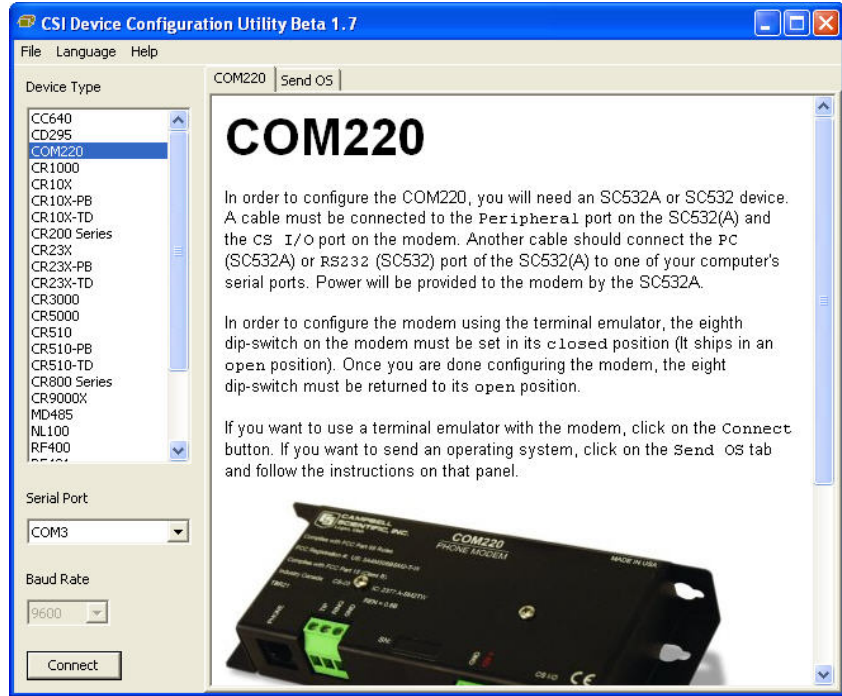
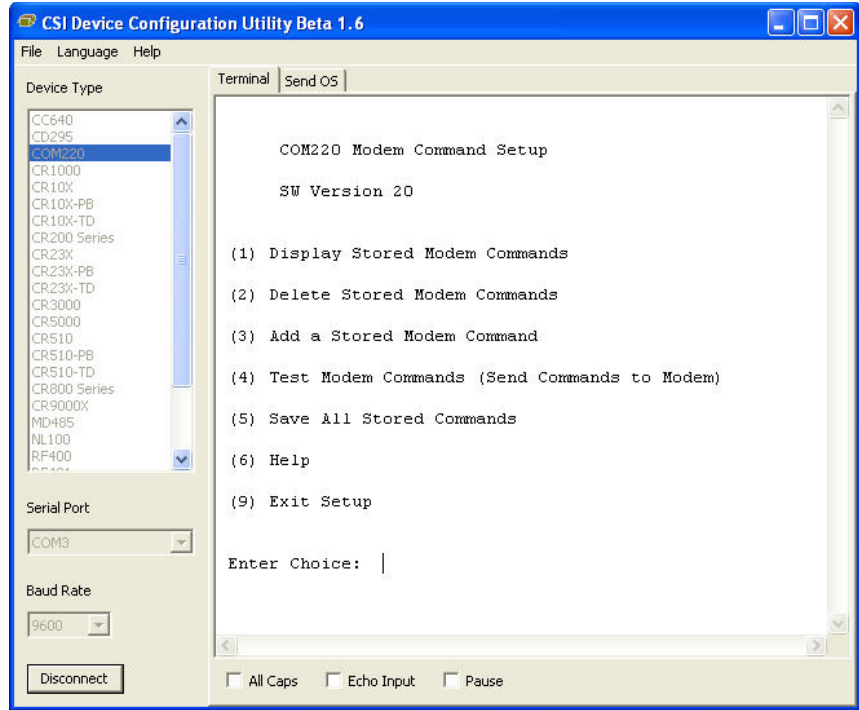

FIGURE A-2. Device Configuration Screen
FIGURE A-3. Terminal Emulator Screen in Device Configuration
- 4) Select Com220 from the Device Configuration utility menu (Figure A-2).
- 6) Once you have clicked on the connect button, connect the peripheral port on the SC532(A) or SC532 to the CS I/O port on the modem with a SC12 cable. If using a SC532, you will also have to apply 12V to the COM220 via a green connector attached to a power supply. If using an SC532A device, power will be provided to the modem by the SC532A (NOTE: you must click on the connect button BEFORE applying power to the COM220).
- 7) Follow the instructions that appear in the terminal emulator screen (Figure A-3).